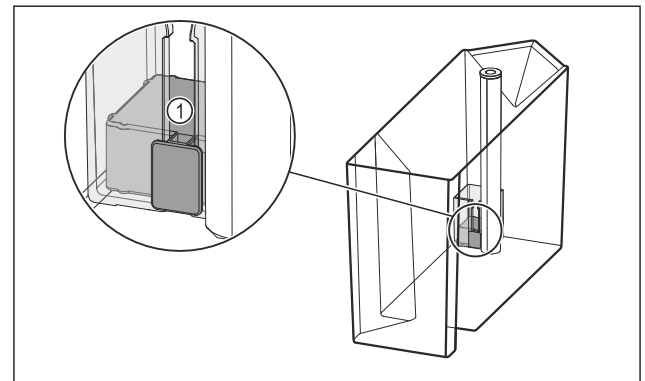

Fig. 111
- ▶ Check whether the float Fig. 111 (1) is jammed. If the float is jammed: